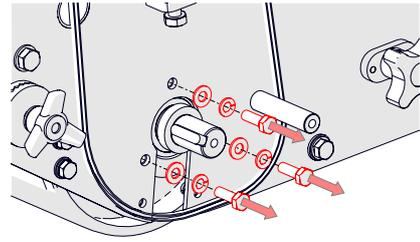

Fig.20K - Remove RH bearing hex screws
14. From the RH side, remove the 3 x hex screws supporting the RH bearing [13 mm spanner]. (Fig.20K). Support the rear roller down and away from the machine (Fig.20L).